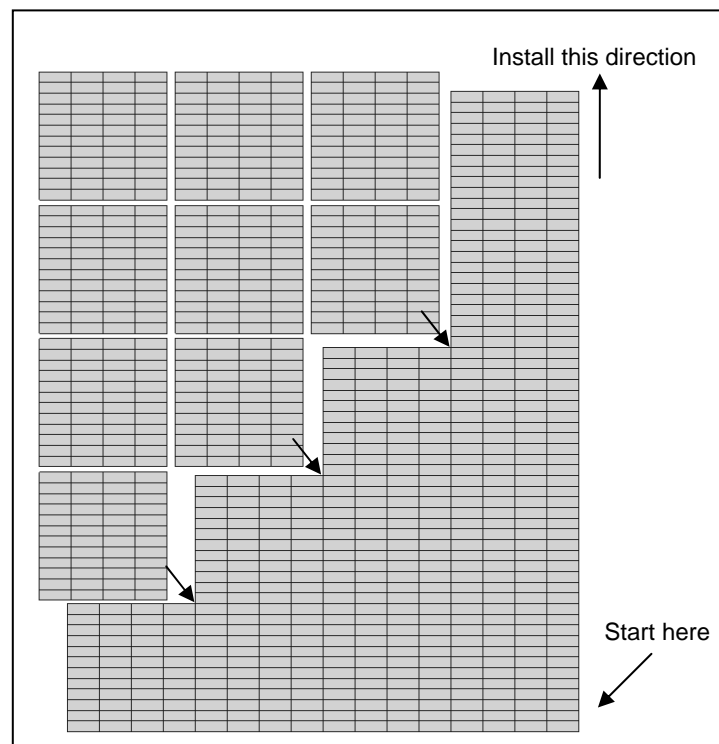
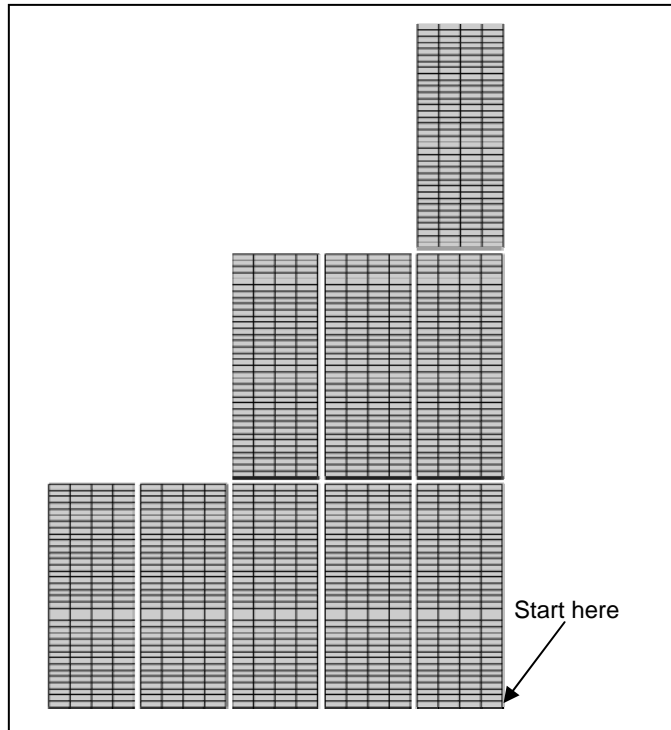

Figure 3
Figure 5
2. The tiles may be installed in a stair-step fashion to allow them to acclimate as the installation proceeds (see Figure 3).
2. Establish a starting point for the installation. Roll out the first rolls of flooring, covering the full **length** of the event flooring area to create a column. (See Figure 5). Make sure all rolls are laid out squared to the dry lines and the locks are facing in the same direction (see Figure 3).
1. Count out 4 tiles from the edge and separate a few tiles with a flat tip screwdriver as shown in Figure 5.